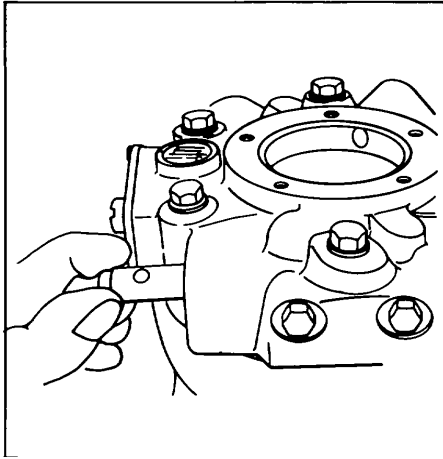

Figure 190.
2. Remove shuttle valve plugs (35) and O-rings (17). Slide shuttle (32) from cover (4) See Fig 190.
4. If cover (4) is to be removed it is important that the cover/housing relationship be preserved. Mark both the housing and cover in such a way that, upon reassembly, the relationship can be maintained. For example, a scratch in the paint across the cover/housing parting line can be used. See Fig 190.